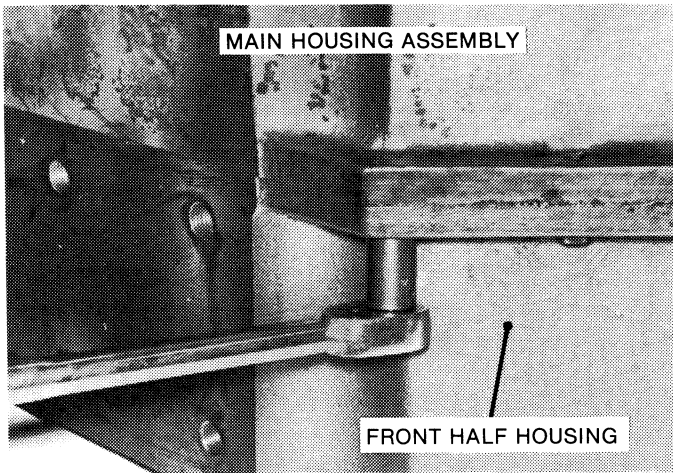

Figure 6-26. Removing or Installing Main Housing Retaining Screws.
1. Remove the hex-head screws (Figure 12-6, 36 and 44) that secure the main housing assembly (28) to the front half housing (37). See Figure 6-26.